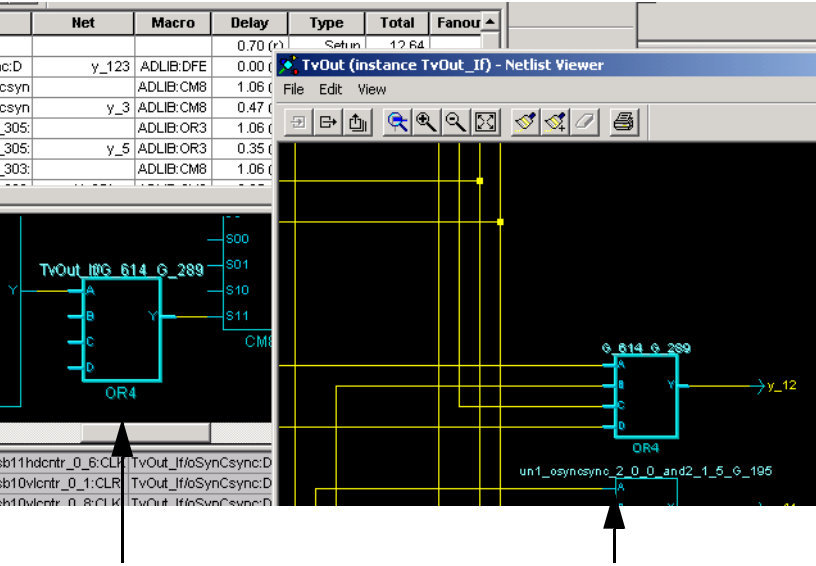

Figure 3-8. Selected Macro is Located and Selected in the Netlist Viewer
6. **Select the Macro in the Chart window.** The macro is located and selected in the Netlist Viewer, as shown in Figure 3-8.